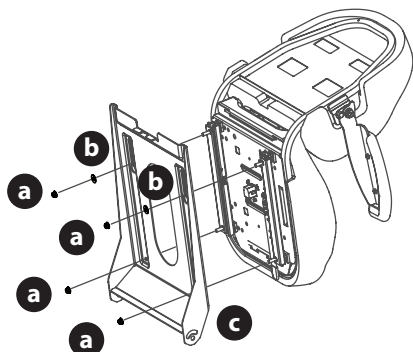

Fig. 5
- b. For a Lever Adjust seat use flange lock nuts (a) and flat washers (b) (Fig. 5).